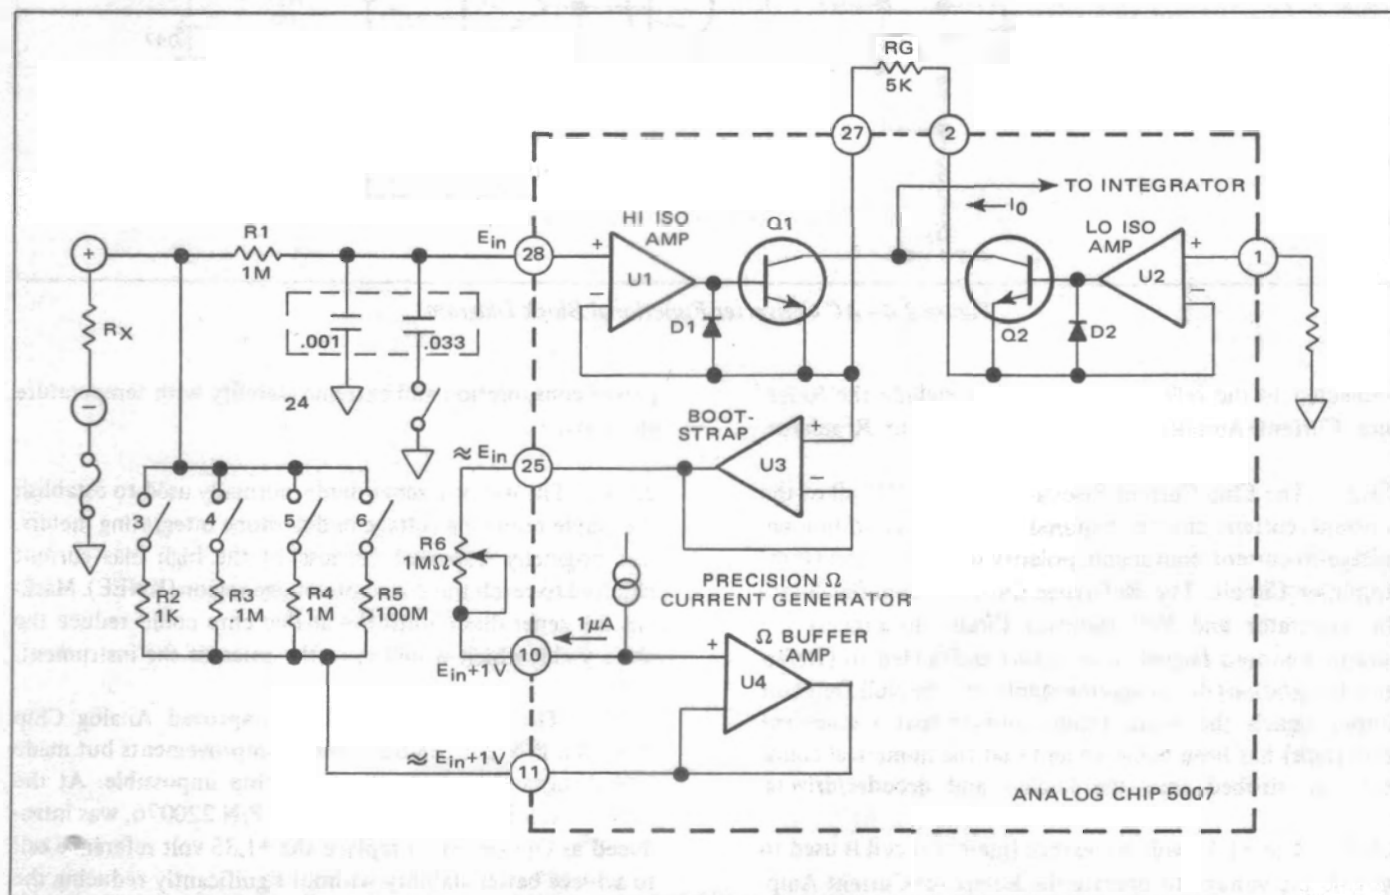

Figure 2.3 - Ohms Converter Functional Block Diagram
2.2.1 The ratiometric ohms converter in Figure 2.3 performs by passing a constant current through, and measuring the resultant voltage drop, across the unknown resistance. The measuring current is generated by maintaining a constant voltage across a current-source resistor associated with each range. A precise $1\text{ }\mu\text{A}$ constant current source on the chip is established by the 1 volt drop across R6; which, when buffered by the ohms op amp, develops a constant 1 volt drop for each of the current source resistors, R2 to R5. The circuit accuracy is limited only by the current scaling resistors and is independent of the reference voltage. The measuring current is constant over each of the resistance ranges but is not the same for each range, as current and resistance are inversely proportional (see Table 2.1). The gain resistor for the 200 and 20K Ω ranges is decreased from 50K Ω to 5K Ω to increase the current demand from the integrator by the (isolator) voltage-to-current converter for a full scale display.